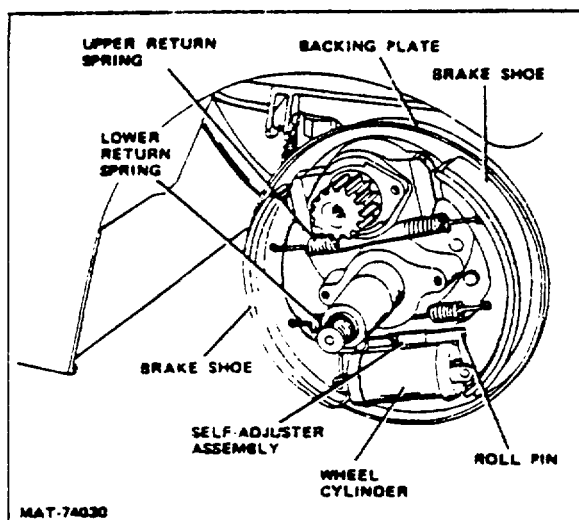

Figure 1-4. Wheel Brake
- f. Remove the inner bearing cone, grease shield (if used) and dust shield. Brake components are now exposed for service (Fig 1-4).